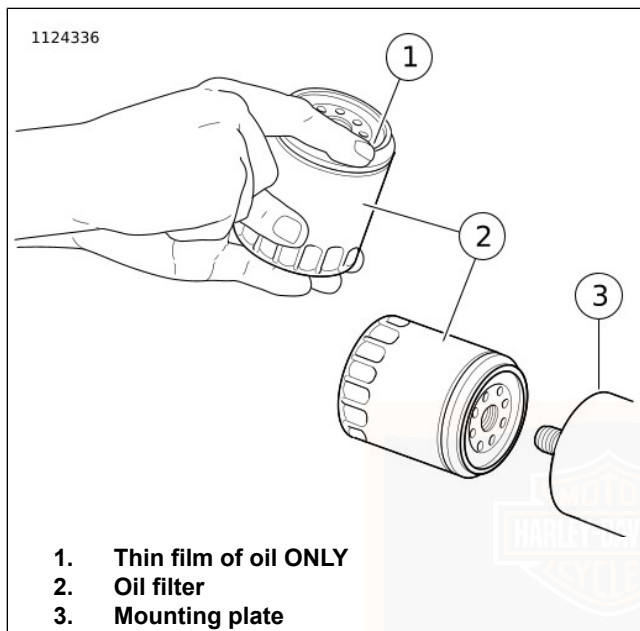

Figure 29. Applying Thin Oil Film
6. See Figure 29. Apply a thin film of oil to gasket contact surface on mounting plate, gasket and new oil filter.